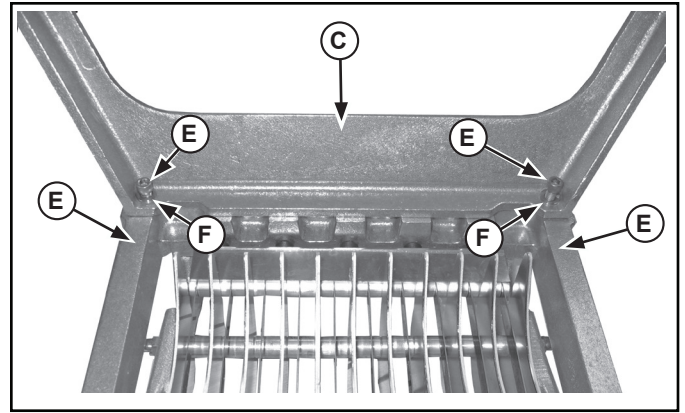

Figure 4. Mounting the Legs on the Lettuce King I.
2. Secure legs (C) to base (D) using screws (A) and washers (B). See Figure 4.